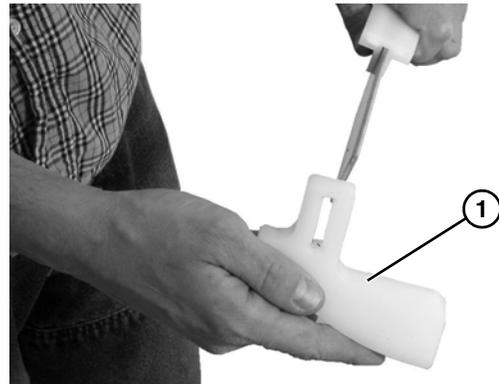

Figure 51
4. Remove and replace nose bar idler shoe if worn (**Figure 51, item 1**).